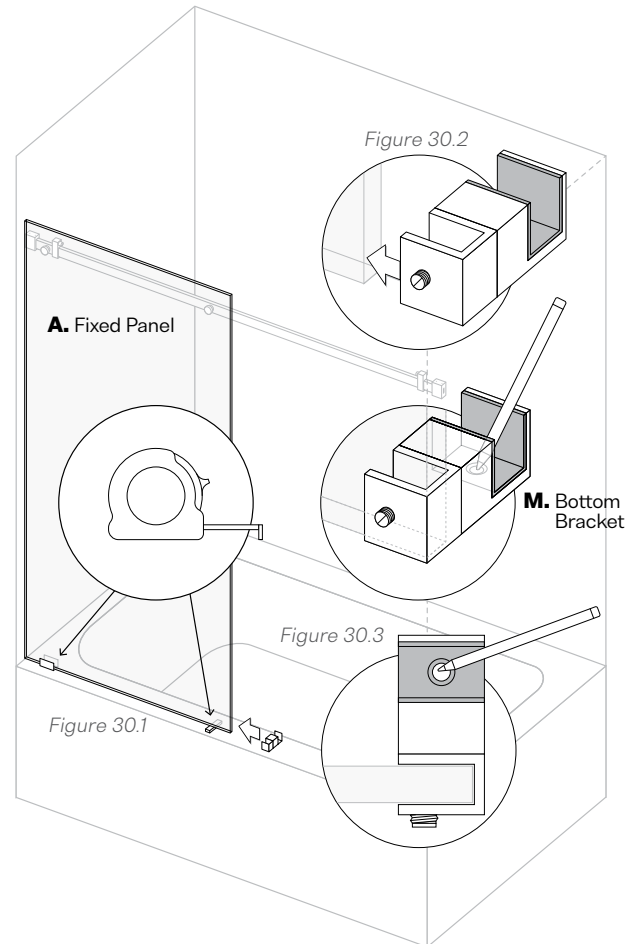

Figure 30.2
- Slide the Floor Bracket (**M.**) securely onto the Fixed Panel (**A.**). Be sure Floor Bracket (**M.**) is perpendicular to Fixed Panel (**A.**) (Fig. 30.2).